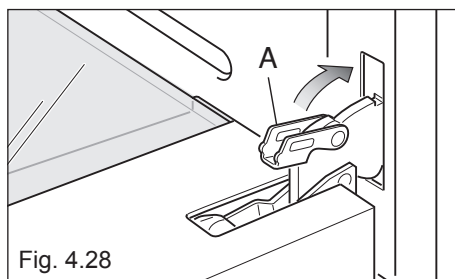

Fig. 4.28
4. Unlock the oven door by opening it completely and closing the lever "A" on the left and right hinges (fig. 4.28).